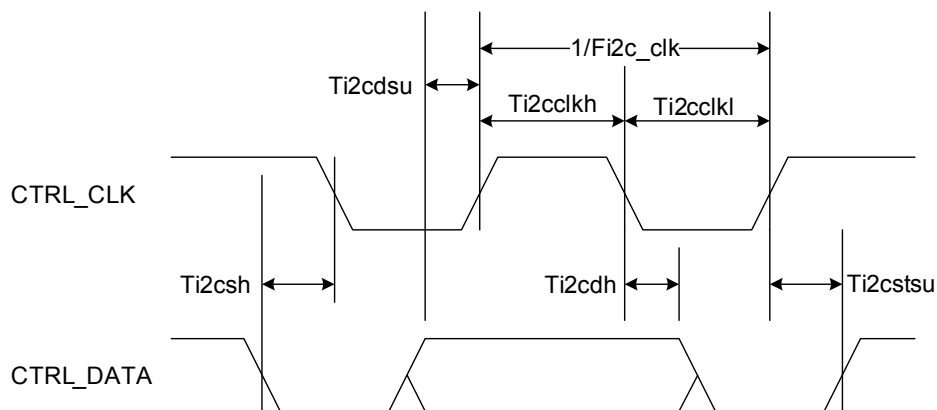

Figure 5. I2C Timing ( $CTRL\_MODE == 0$ )
| I2C BUS TIMING (3) See <a href="#">Figure 5</a> .                                  |                |                    |                                                |     |         |